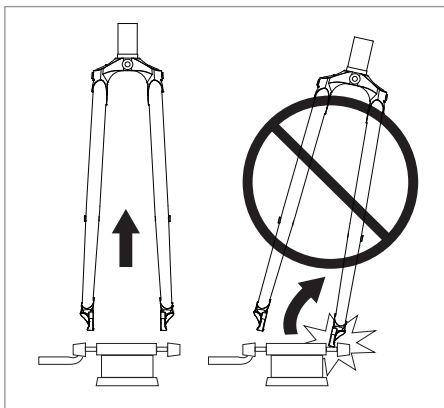

Figure 9
2. To remove the bicycle, lift the fork straight up so the dropouts disengage evenly. Tilting the bicycle off the rack can damage the dropouts (Fig. 9).